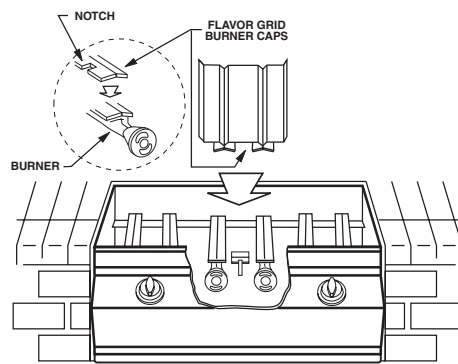

Figure 4 - Flavor Grid Diagram
a. Place the Flavor Grid Burner caps directly on the Burners. Make sure the notched end of the Burner Cap rests over the Ignitor Box (Figure 4). Center the Grids over the Burners with the open side up. This allows heat from the Burners to be evenly distributed throughout the cooking area. Flavor Grids heat and cool quickly, making your Fire Magic Barbecue very responsive to the changes you specify in grill temperature.